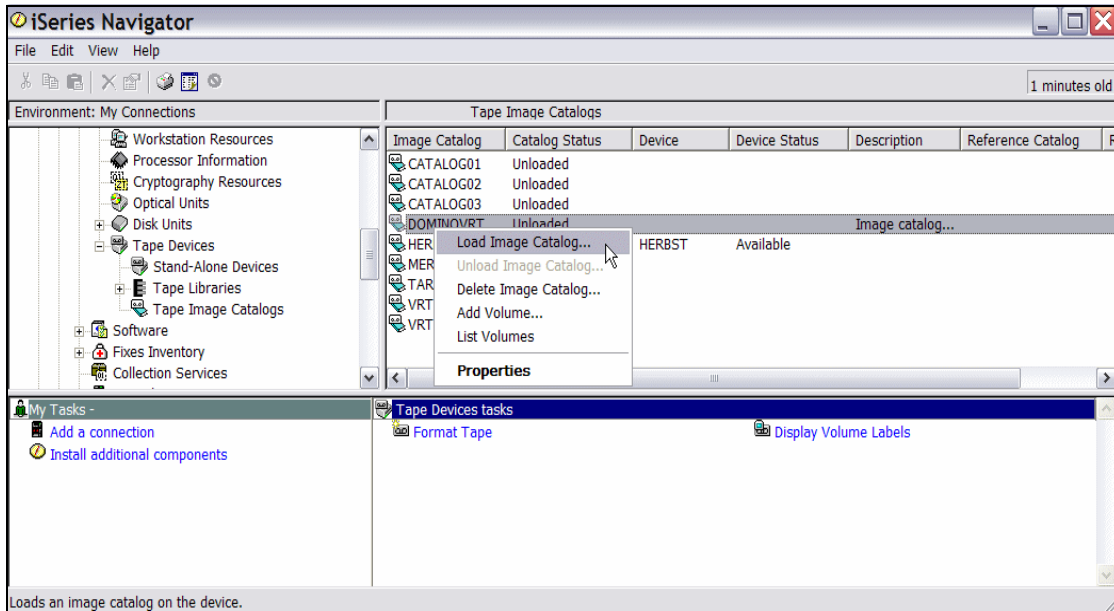

Figure 5-8 Domino with BRMS virtual tape - load image catalog
8. In order for an image catalog to be operated, it has to be connected to a tape drive. Right-click the image catalog and select **Load Image catalog**, as shown in Figure 5-8 on page 197.
- Bring up the list of volumes by right-clicking the image catalog in the window shown in Figure 5-8, and selecting **List volumes**. This displays the list of